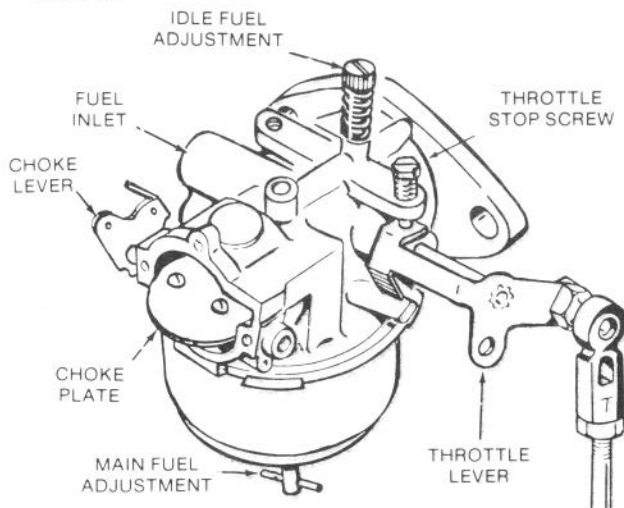

FIGURE 6. CARBURETOR ADJUSTMENTS
1. Turn both mixture screws (Figure 6) in until lightly seated, then back the idle mixture screw out 1-1/2 turns and the main mixture screw out 2-3 turns.